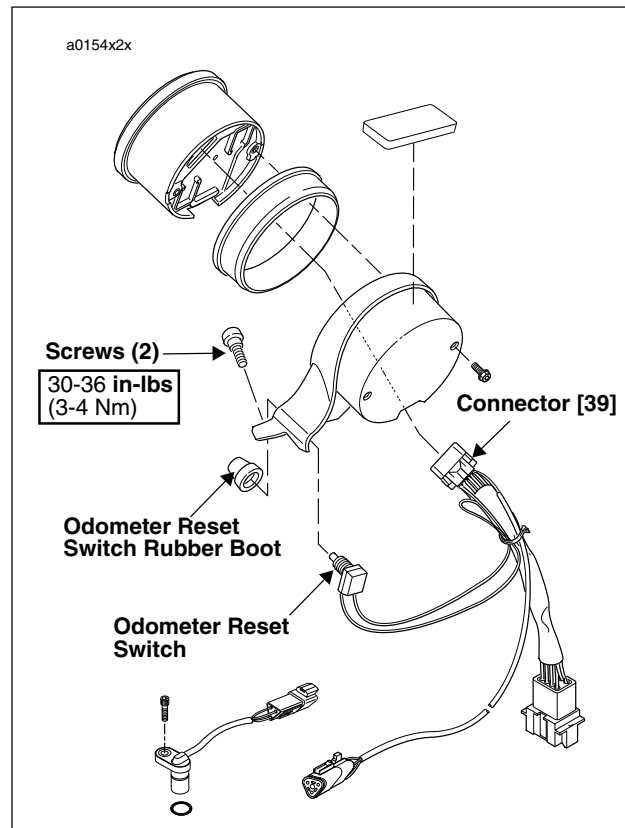

Figure 2-105. Instrument Panel
1. See Figure 2-105. Remove two mounting screws and instrument panel.